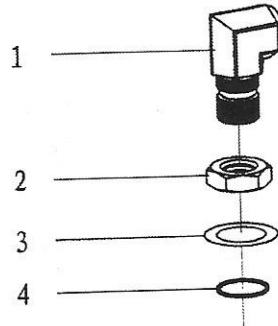

Fig. 19
16. Bend sub (NPT1-1 5/16-12UN) (Fig 19, Table 16)